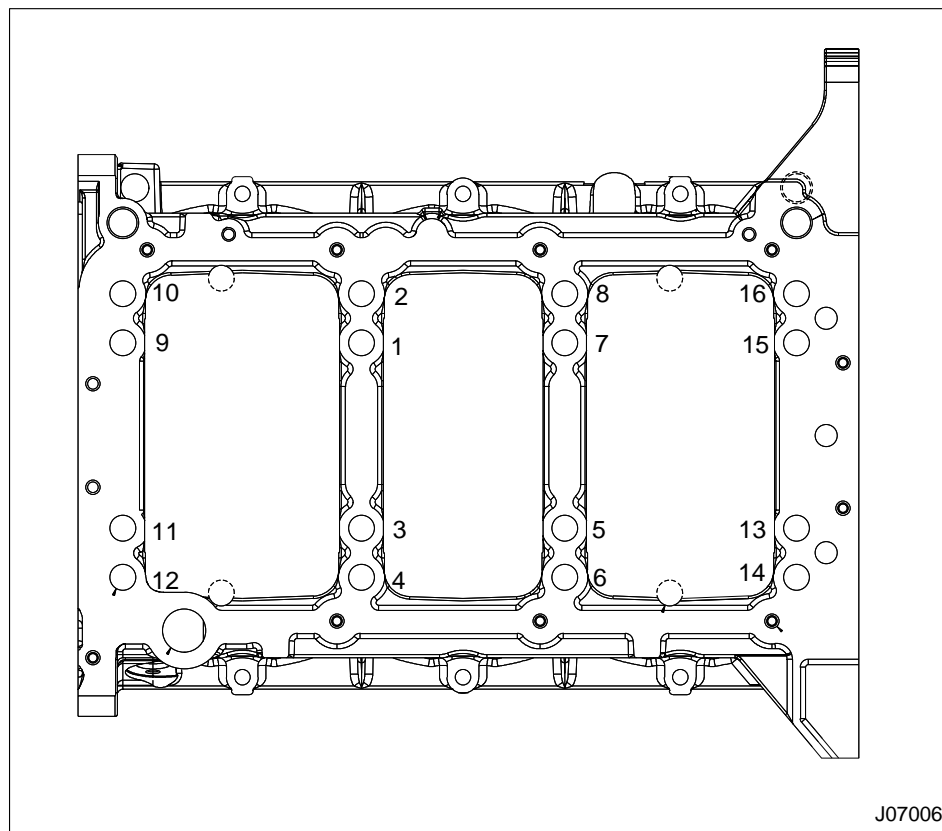

Figure 408 Lower crankcase main bearing mounting bolt tightening sequence
6. Install all 16 lower crankcase main bearing mounting bolts. Tighten main cap bolts to the special torque as follows using the sequence shown in the "Lower crankcase main bearing mounting bolt tightening sequence" (Figure 408):
- a. Initially torque bolts to 122 N·m (90 lbf·ft) in the numerical sequence shown in "Lower crankcase main bearing mounting bolt tightening sequence" (Figure 408).
- b. Increase torque for bolts to 163 N·m (120 lbf·ft) in the numerical sequence shown in "Lower crankcase main bearing mounting bolt tightening sequence" (Figure 408).
- c. Increase torque for bolts to a final value of 231 N·m (170 lbf·ft) in the numerical sequence shown in "Lower crankcase main bearing mounting bolt tightening sequence" (Figure 408).